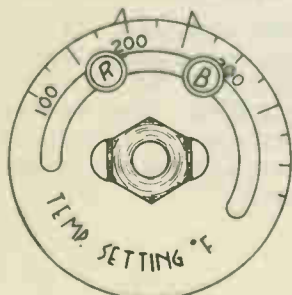

FIG. 3
**DIFFERENTIAL SETTING** refers to the amount of heat necessary to reverse the action of the switch. The instrument as it leaves the factory is satisfactory for most applications. If it is found necessary to change the differential setting, loosen lock screws by turning in a counter-clockwise direction; set Blue pointer to the desired operating temperature on the dial; set Red pointer to operating temperature desired; **WITH THE FINGERS ONLY**, tighten Pointer screws; when loosening or tightening screws, it is a good idea to steady the plate with the other hand so that there is no appreciable load applied to the Bi-Metal Coil. In Diagram Illustration, the circuit will open at 250 degrees and close at 200 degrees, operating on a differential of 50 degrees. The settings shown in Fig. 3 are not recommended settings but are used for illustrative purposes only.